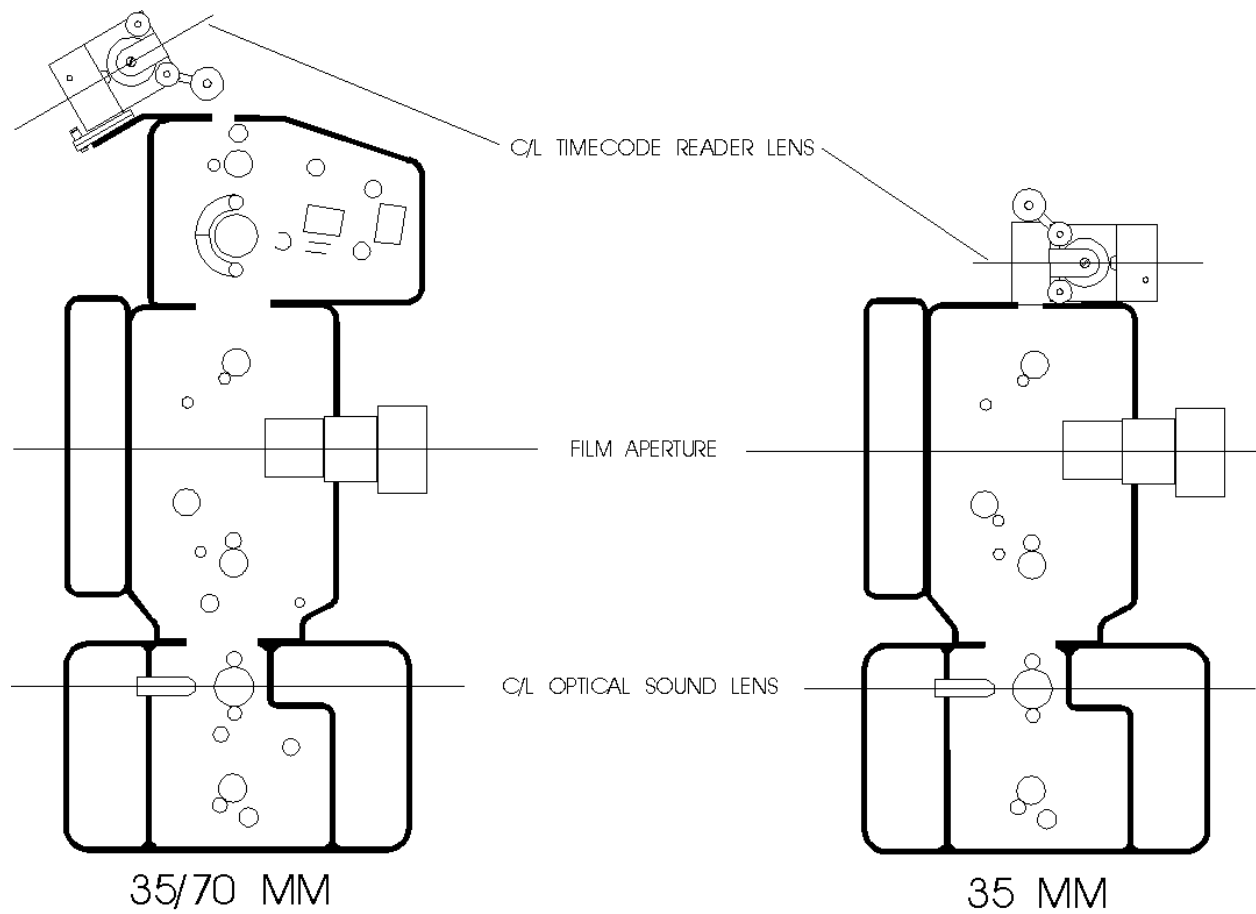

FIGURE 4
4.2 Timecode Reader Adjustment. See Figure 4.